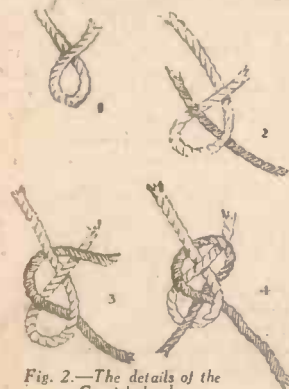
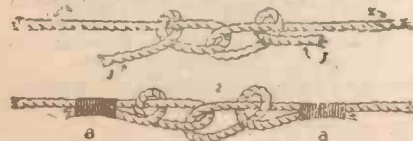

Fig. 2.—The details of the Carrick bend.
Fig. 3.—The hawser bend.
I gave you several ways of joining two ends of rope or cord, if you remember. Fig. 2 shows yet another, the Carrick bend, which is a very secure knot for moderately thick stuff; it is not very useful for joining ends of thin material such as string, for if so used, it is apt to jam. I think that the figure makes the method of tying it fairly plain. It is, of course, on the same principle as the reef-knot. If you have to join two pieces of very thick rope, no ordinary knot is secure enough; the only reliable joint is the hawser bend, shown in Fig. 3. The ends are first loosely bent together by half-hitches, Fig. 3 (1), then, to make all safe, the running ends of the hawsers are lashed or "seized" with turns of cord to the standing parts, Fig. 3 (2) a, a.
making knots being the running end? Thus, in Fig. 3 (1), x, x are the standing parts, and y, y the running ends. The hawser bend is also used for joining wire ropes together.